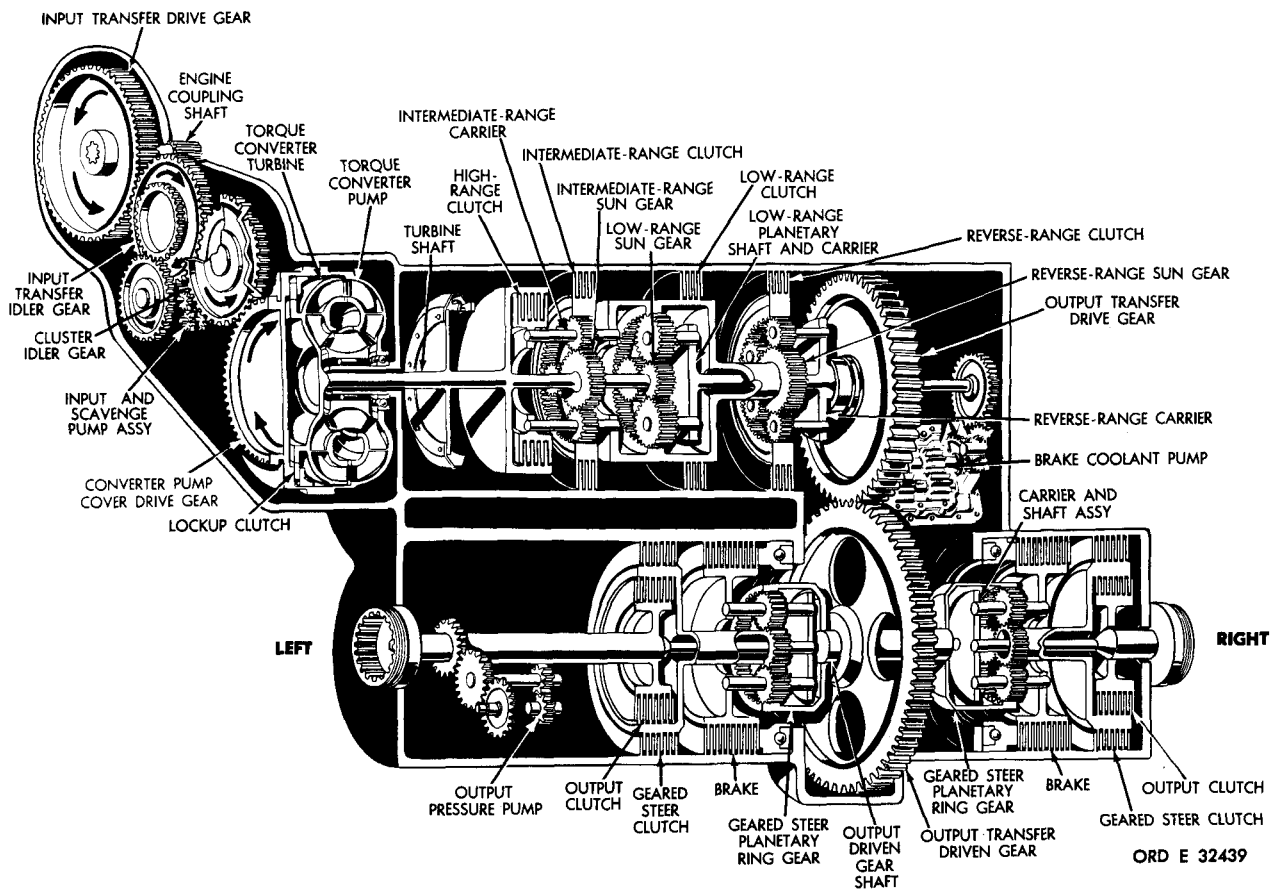

Figure 20. Gearing and clutches in power train — schematic view
a. Figure 20 is a schematic view of the power train without the output drive assemblies. All of the principal components through which torque flows are identified. Figure 21 is a cutaway view of the left-output drive assembly, colored to indicate the torque path. Subsequent figures, 22 through 34, are colored schematic views, illustrating the torque paths for the conditions indicated in each view. Arrows on components indicate the direction of rotation of such components.
GEARING (fig. 20)
CLUTCH (fig. 20)
TRANSFER GEARING (fig. 20)